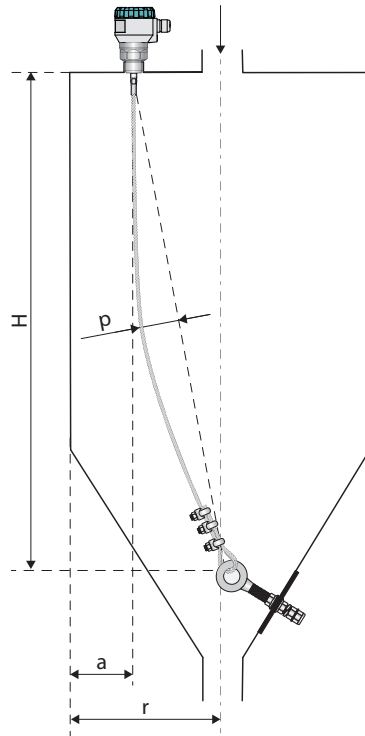

Fig. 20: Recommended installation of the level meter with anchoring on the opposite side of the silo
- **For applications with bulk solids** it is appropriate to anchor the rope electrodes at the opposite sides of the tank (silo) so that the rope is sagging, see Fig.20. Minimum recommended sag is $p = H/100$ [mm]. This installation increases the resistance of the rope to tension load.
opposite side of the silo (Fig. 20)	any